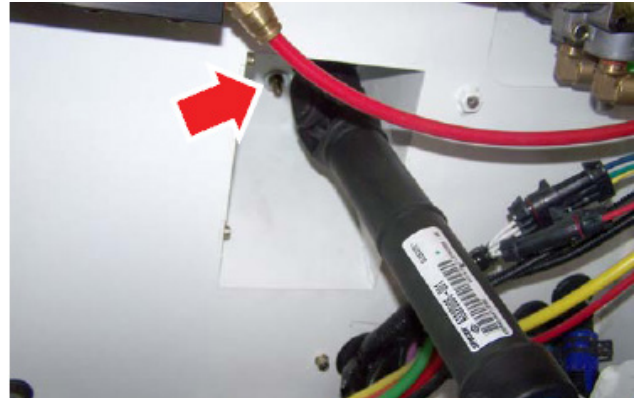

Figure 6
- 6. Remove the pinch bolt at the top of the steering column shaft where it is connected to the steering column and discard the pinch bolt (See Figure 6).